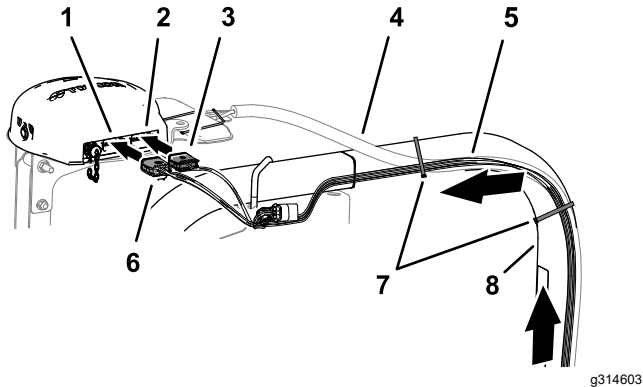

Figure 161
1. Align the 302 cm (119 inches) branch of the navigation-data and electrical harness along the right ROPS tube with the 12-socket connector (gray) and 12-socket connector (black) up toward the navigation receiver (Figure 161).